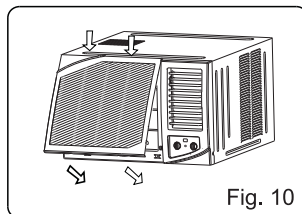

Fig. 10
2. Hang the front panel on the frame's buckle, then press the front panel into the frame's slot until hear a click. (see Fig.10)